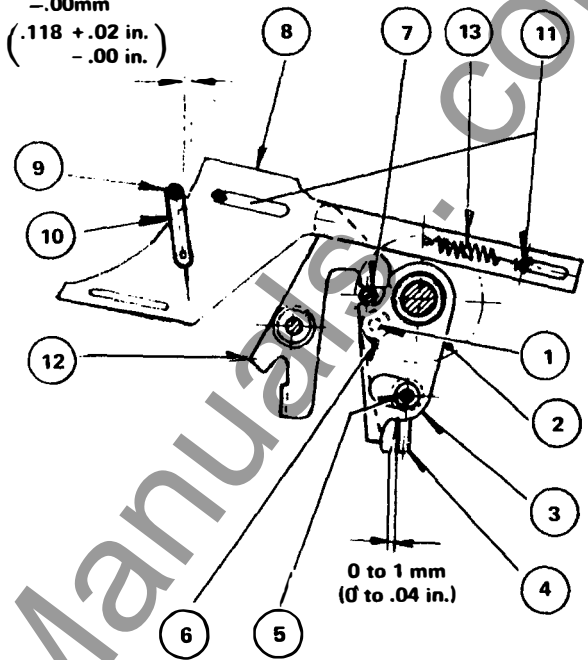

Figure 7
- Looseness of the eccentric (6, Fig. 7) – adjust as instructed in 7.4.1.
- Warpage of the trip rod (8, Fig. 7) – check as instructed in 7.4.2.
- Wear of lever (7, Fig. 7, Page 10). – This trouble is very uncommon and may occur after a number of operations much greater than that recommended. The lever (7) is to be replaced at our plant or by an FPE Field Service Engineer.
7.4.1 Adjustment of the Closing Spring Mechanical Lock (Figure 7)
Since this adjustment is to be made with the breaker closed, the eccentric (6, Fig. 7) should first be locked by tightening screw (1) in such a way as to position the lobe opposite the pin (7); then, with the breaker closed and springs discharged, perform the following operations:
- Loosen screw (1) slightly.
- Turn knob (2) counter-clockwise until the clearance between the lever (3) and the pin (4) of trip bar (5) is between 0 and .04 inch (0 and .1 mm).
- Rotate the eccentric (6) until it is touching pin (7) of knob (2); lock it in this position by tightening the screw (1).
7.4.2 Checking the Trip Bar (8) for Opening the Breaker (Figure 7)